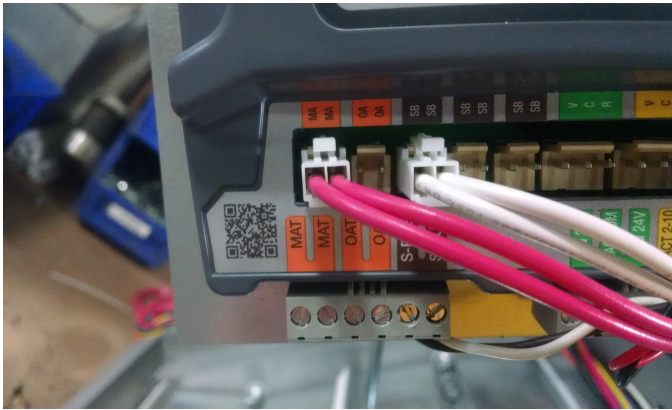

Figure 4
7. Feed the wire for the mixed air sensor back to the economizer and connect it on the side of the Jade control at MAT. (Figure 4)